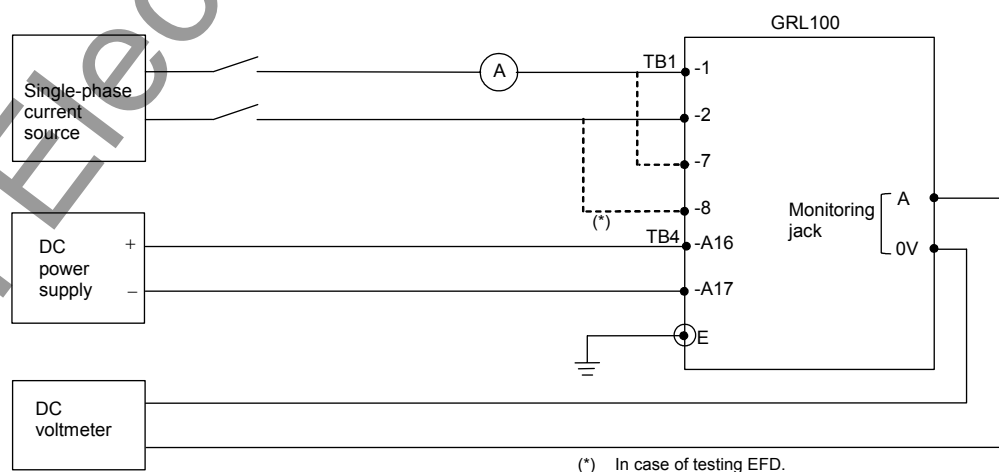

**Figure 6.5.1.13 Testing Current Change Detection Element**
- Apply single-phase rated voltage to terminals 17 and 18 as shown with broken lines in Figure 6.5.1.12 and set the scheme switch "3PH-VT" to "Line". The test can be performed taking the same steps as testing SYN1.
The test circuit is shown in Figure 6.5.1.13.